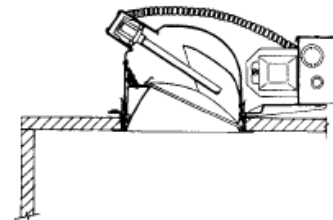

FIG. 11
2. Compress TORSIONITE SPRINGS on LENS TRIM by squeezing with fingers. Insert into SLOTS in REFLECTOR and push up into REFLECTOR until flush with ceiling (Fig. 11)